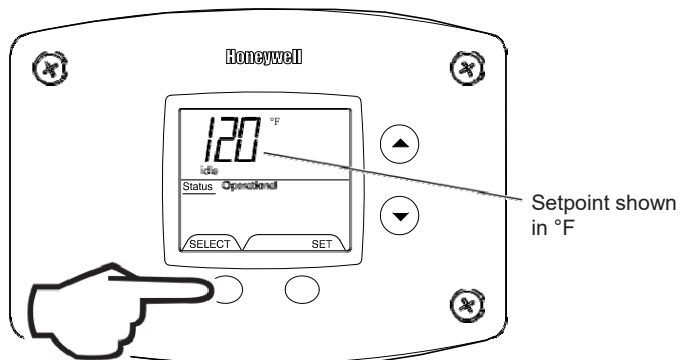

Fig. 70
5. Pressing 'Select' button will return display to setpoint in format selected (°F or °C) immediately (Fig. 70).